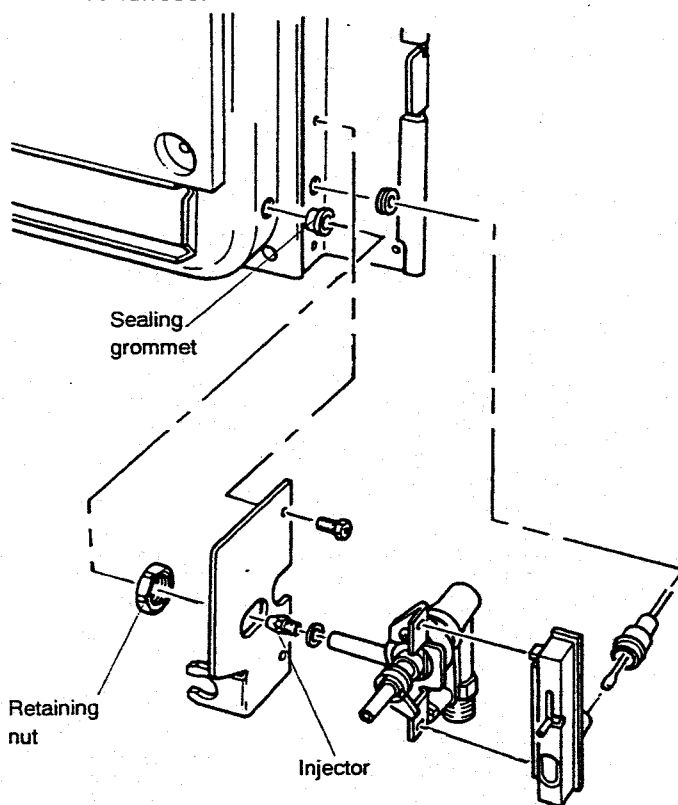

Fig. 7. Injector and gas tap retaining nut.
6. Remove and clean the injector and washer. The injector must NOT be cleaned with a needle or wire. (Fig 7).
Remove the supply pipe from the gas tap. Release the retaining nut on the gas tap outlet. (Fig 7). Pull the gas tap from its location bracket. On re-assembly ensure that the airbox sealing grommet is correctly positioned and check for gas soundness.